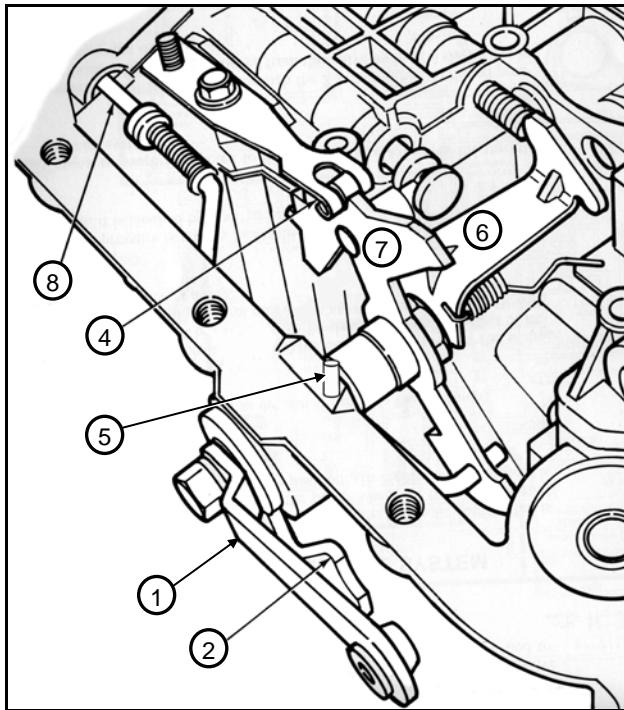

Figure 1
**Step 3** See **Figure 1.** Disconnect the shift linkage from the transmission shift lever (1). If the vehicle has a steering column shift lever, secure the shift lever on the bottom of the steering column in the PARK position otherwise it will not be possible to lock the steering column. Remove the